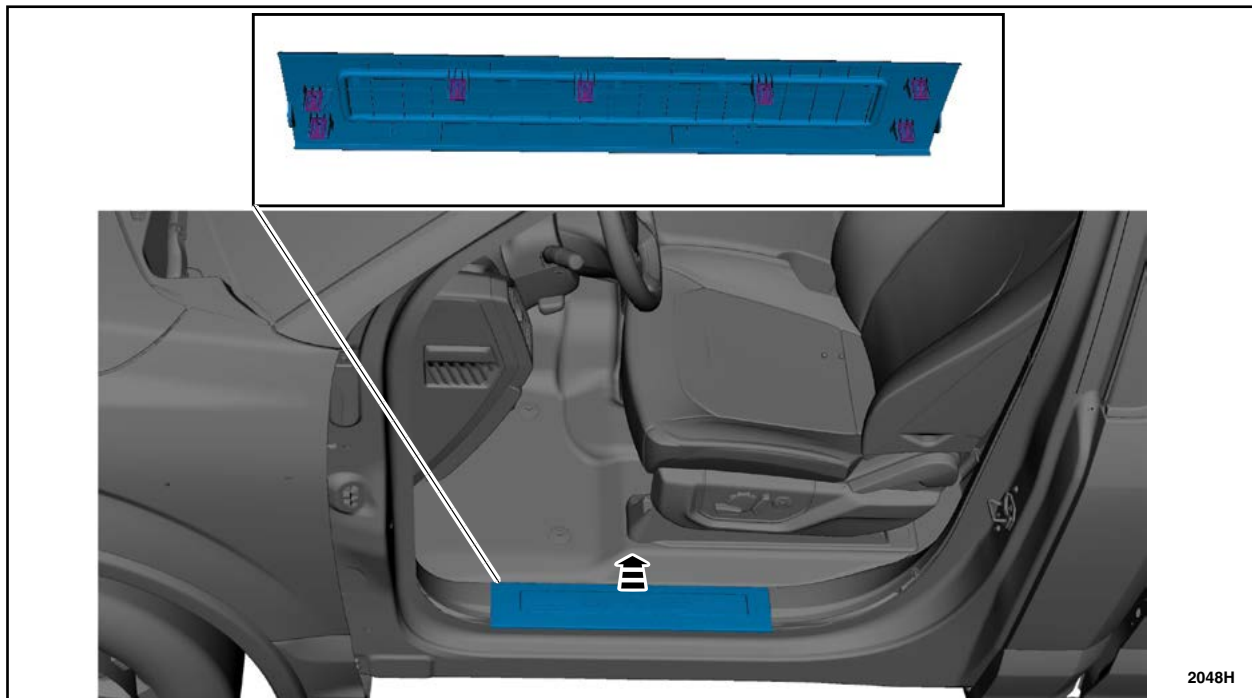

FIGURE 1
1. Release the clips and remove the front Left Hand (LH) side scuffplate trim panel. See Figure 1.
6. Install the front LH side scuffplate trim panel. See Figure 1.